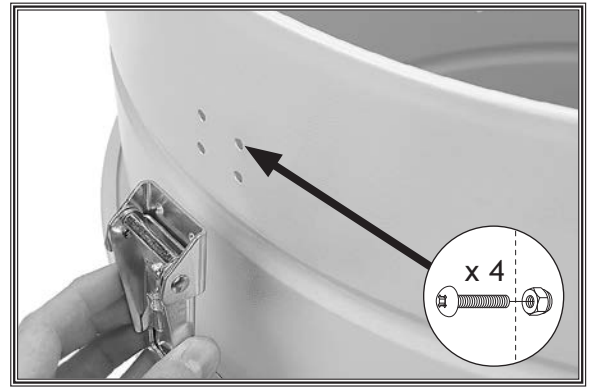

Figure 21. Attaching latch to collector drum.
19. Attach both drum latches using (4) M4-.7 x 8 Phillips head screws and (4) M4-.7 lock nuts per latch (see Figure 21).